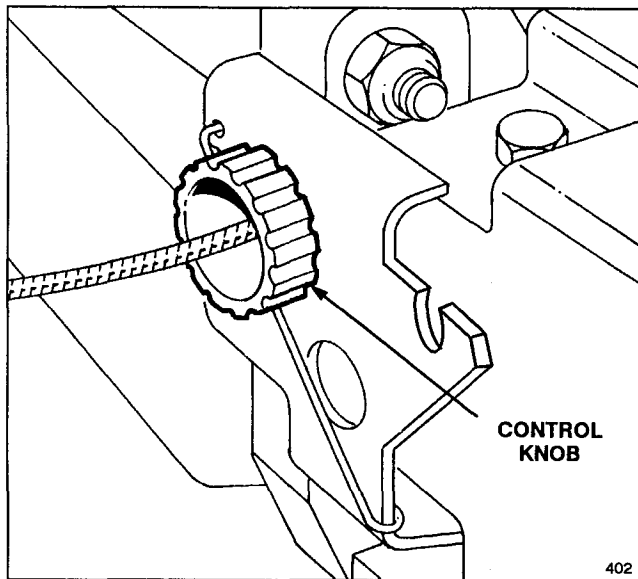

Figure 20
1. **ADJUSTMENT** (Fig. 20)—Rotate control knob clockwise 1/2 turn if mower does not self-propel. If mower creeps forward, rotate knob 1/2 turn counterclockwise to loosen belt.